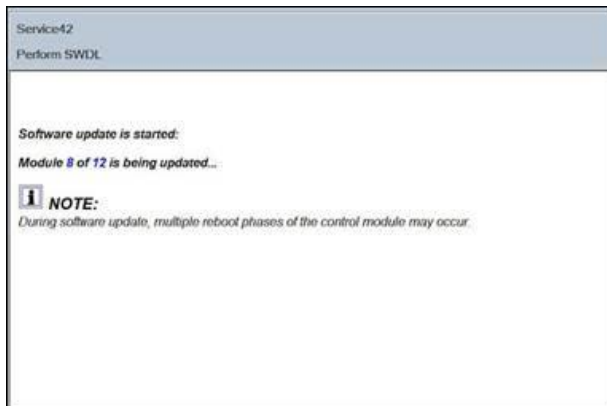

Figure 2.
7. Upon confirming the location of the SD card, the ODIS tester starts and monitors the software update process and displays the progress (Figure 2).